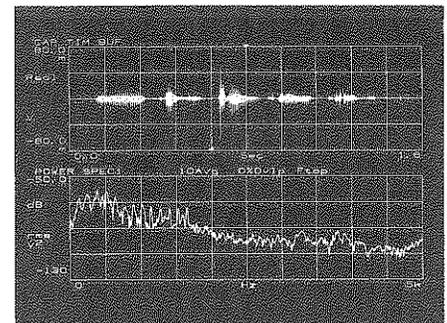

Figure 6-4
- 7. Start Average** Press the yellow **START** key. The averaged power spectrum will be displayed in the lower trace as shown in Figure 6-4. A feature called the "capture pointer" can be used to select the beginning of a new block to be analyzed: